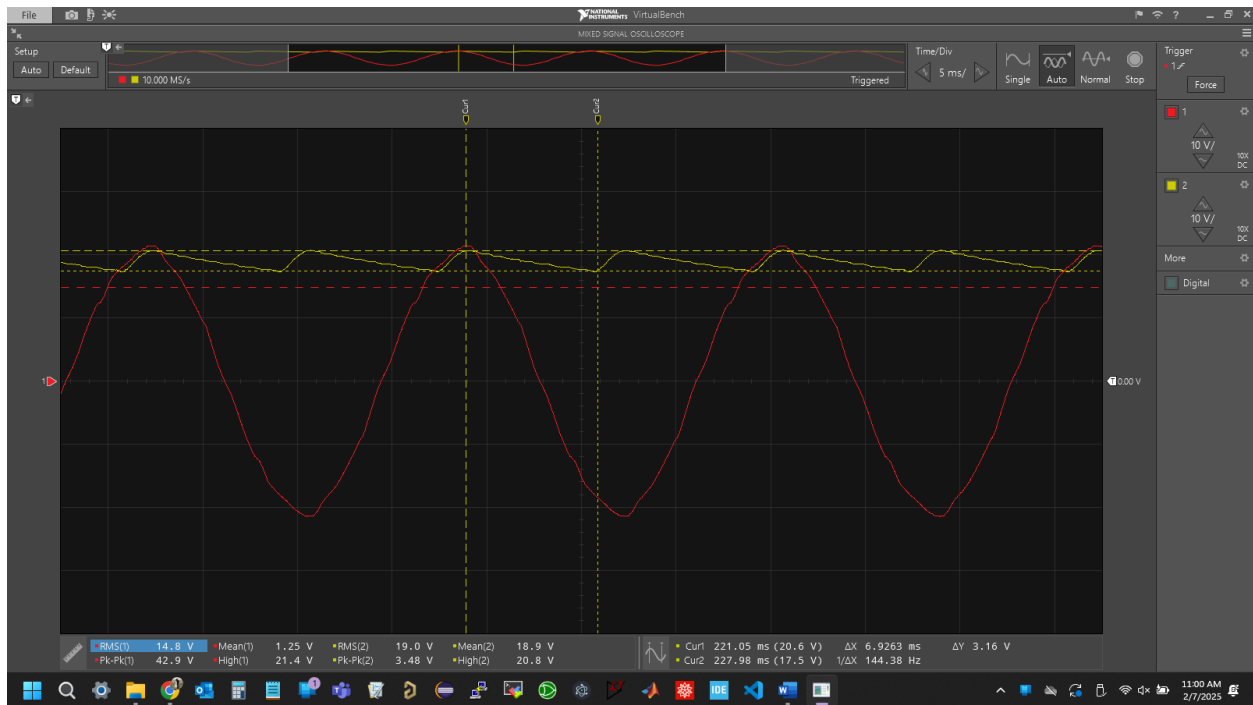

Figure 6: Input and Output Waveforms for the Full-Wave Rectifier Circuit.
8. If the powered circuit appears to be connected properly, then you should get waveforms that look like the screen capture illustrated in **Figure 6** below after allowing time for the 64 averages to complete.
9. Add both waveform cursors to the V_{load} waveform, with **Type** set to **Track**. Adjust the cursors along the V_{load} waveform such that one cursor is located at a waveform peak, while the other cursor is located at a waveform valley, as illustrated in **Figure 6** below.
10. After the measured values are properly settled and displayed, perform a screen capture of the resulting waveforms and measured values. **Then replace the screen capture in Figure 6 below with your version, leaving in the figure number and caption.** (12 Points.)